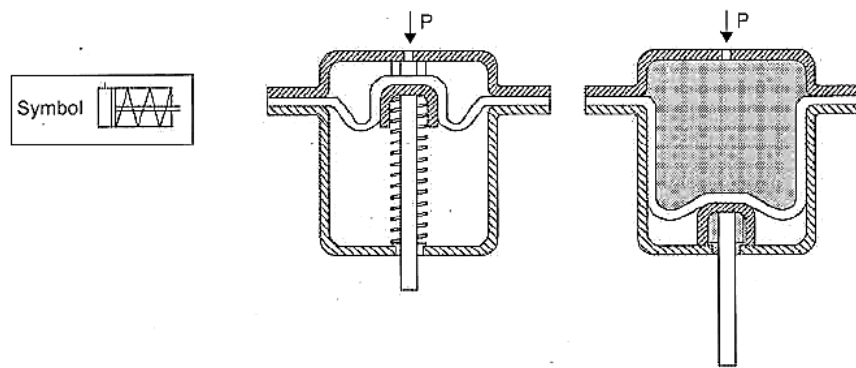

Fig.5.3 Construction features of rolling diaphragm cylinder
- ▶ These are similar to diaphragm cylinders. A schematic diagram of a rolling diaphragm cylinder is shown in Fig.5.3. It also contains a diaphragm instead of a piston, which in this instance rolls out